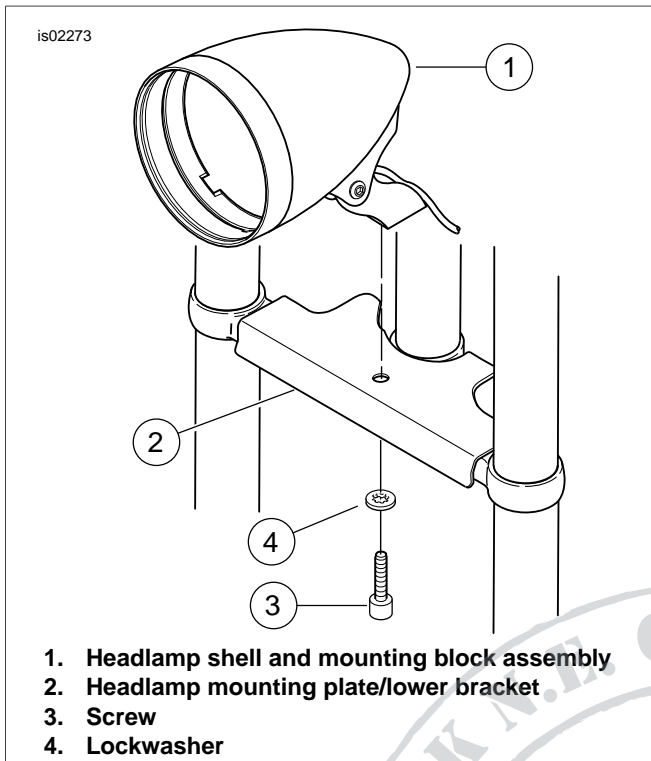

Figure 6. Install Headlamp Shell and Mounting Block
5. *Softail and Dyna:* See Figure 6. Install headlamp shell and mounting block assembly (1) onto headlamp mounting plate/lower bracket (2) using a 3/8-16 x 1-3/4 in. screw (3) from kit and lockwasher (4) previously removed. Align shell and mounting block, and tighten screw to 31 ft-lbs (42 Nm).